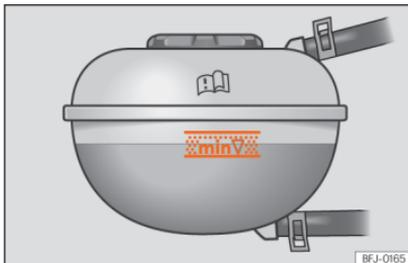

Fig. 197 In the engine compartment: marking on coolant expansion tank.
- Read off the coolant level on coolant expansion tank. When the engine is cold, the coolant level should be between the marks »» **Fig. 197**. When the engine is hot, it may be slightly above the upper mark.